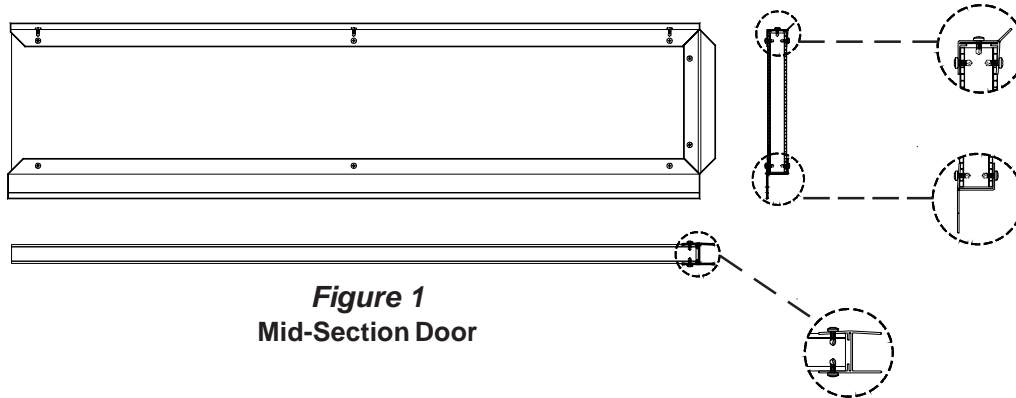

Figure 1
1) Field Trim Tunnel Doors are designed to fit in all applications, Mid-section doors, End doors and Modular doors, as well as reverse hinge applications, **See Figures 1 - 4** to determine your application.